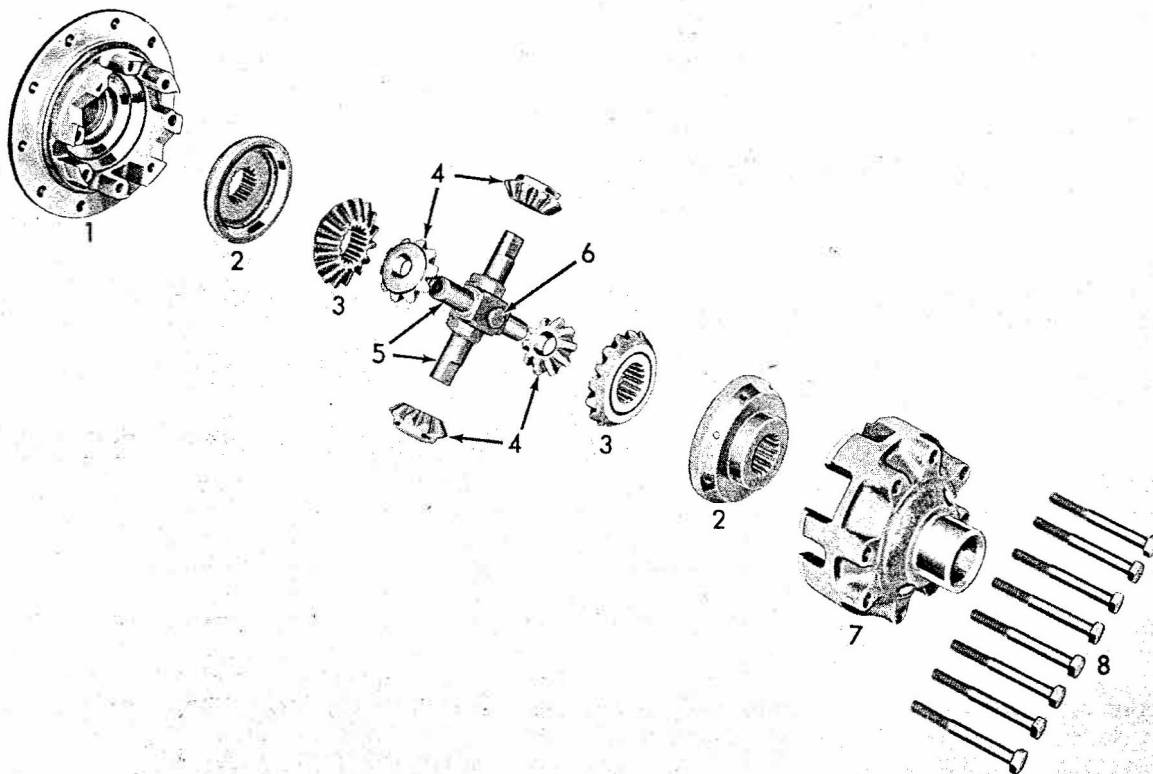

FIG. 1
The differential assembly consists of two case halves (1 and 7, Fig. 1), two cross pins (5), differential pinions (4), bevel side gears (3), clutch rings (2), and axle shaft thrust block (6).